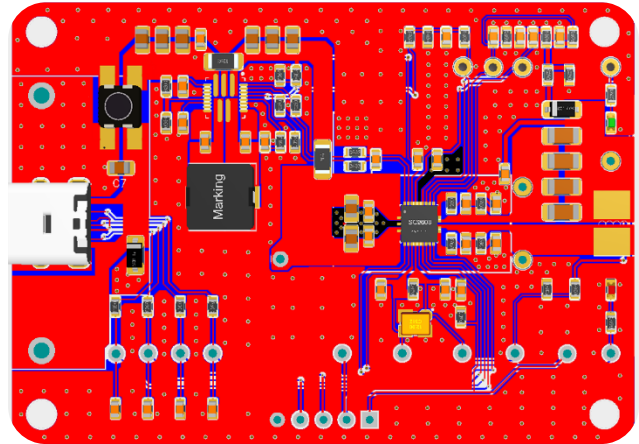

Fig6. Top Layer
- Separate the analog-ground plane from the power-ground plane, and use only one point to join them, best to connect the AGND pin to PGND pin at the bottom of IC as the black circle indicate in figure 6.